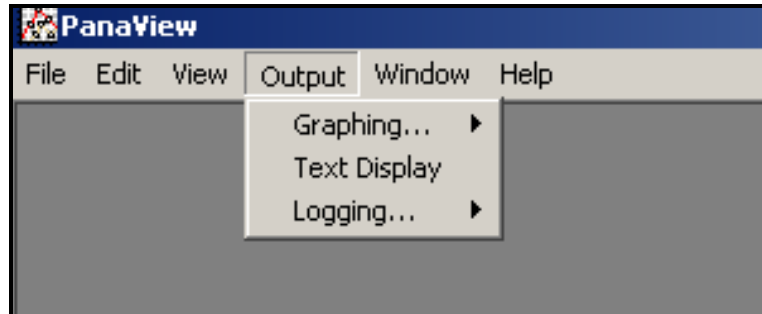

Figure 16: The Output Menu
1. In PanaView, pull down the *Output* menu, as shown in Figure 16, and click on the *Text Display* option.